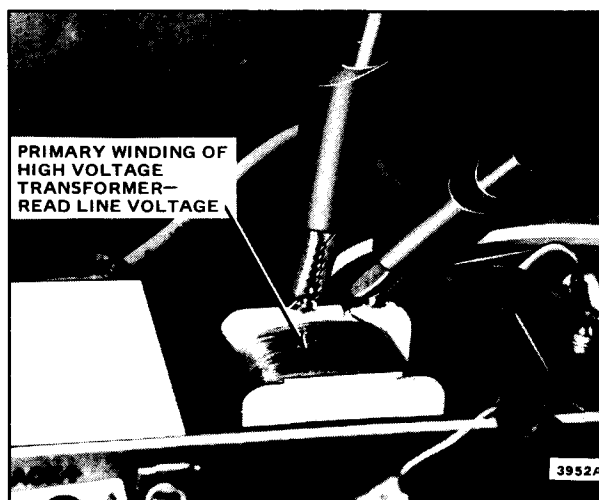

FIG. 19—CHECK FOR LINE VOLTAGE.
- b. Check for correct line voltage on the primary of high voltage transformer. See Fig. 19.
- (1) If line voltage power is not present, check back through the power source wiring to locate the problem.
- (2) If the correct voltage is measured, continue with check c., below.